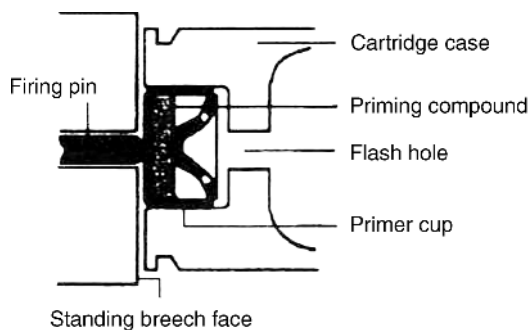

Figure 1.0.9 The centre fire system.
1.0.7 The centre fire system (Figure 1.0.9)